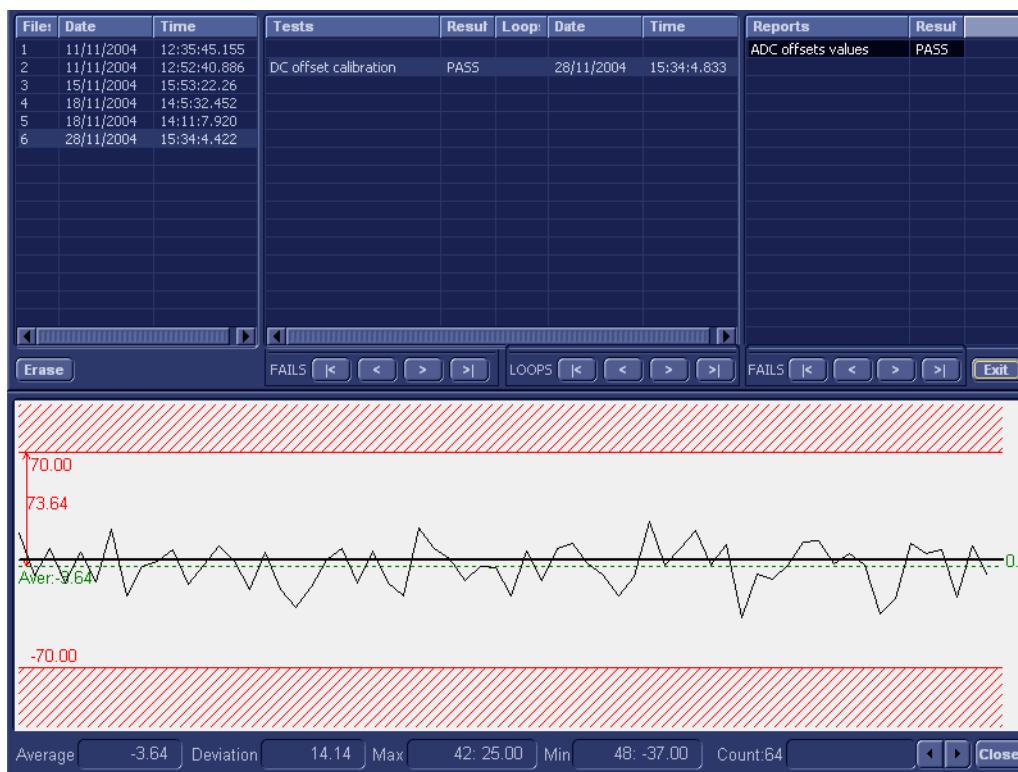

Figure 7-8 View Test Log - DC Offset Calibration
- the View Test Log window opens automatically, listing the test performed and showing whether it passed or failed, as shown in the example in Figure 7-8.
- 8.) Use the scroll arrows at the bottom of the Reports window (see Figure 7-8) to scroll through the channels and view the corresponding results.